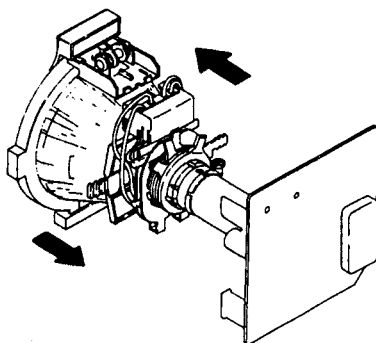

Fig. 3-1
(Fig. 3-1 - 3-3)
4. Move the deflection yoke forward, and adjust so that the entire screen becomes red. (Fig. 3-1)